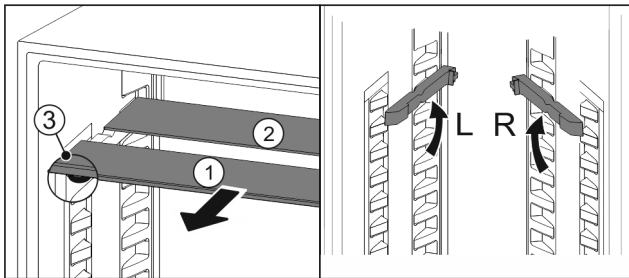

Fig. 115
- Pull the glass panels out Fig. 115 (1) from the front, one at a time.
- The glass panel Fig. 115 (1) and trim strip are at the front.
- The stops Fig. 115 (3) point down.